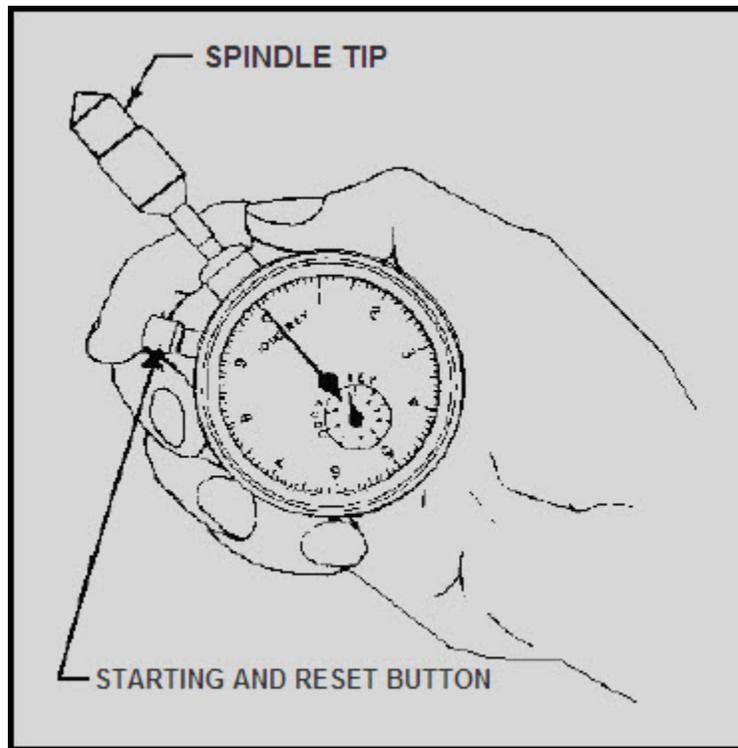

Figure 2-6 Chronometric tachometer
**CHRONOMETRIC TACHOMETER** - The chronometric tachometer (figure 2-6) is a combination watch and revolution counter. It measures the average number of revolutions of a shaft per minute. The chronometric tachometer also comes with hard rubber tips, which must be inserted over the drive shaft.
When applied to a rotating shaft, the outer drive shaft of this tachometer runs free until a starting button is depressed to start the timing element. In figure 2-6, note the starting button beneath the index finger. The chronometric tachometer retains readings on its dial after its drive shaft has been disengaged from a rotating shaft and until the pointers are returned to 0 by the reset button (usually the starting button). The range of a chronometric tachometer is usually from 0 to 10,000 rpm and from 0 to 3,000 feet per minute (fpm).